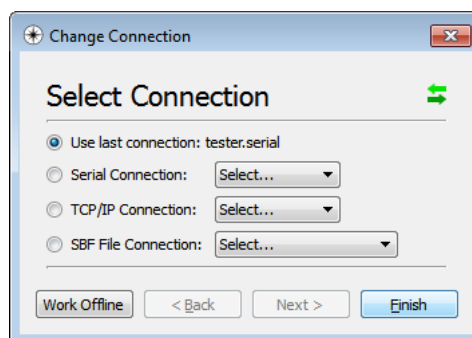

Figure 2.3-1: Connection dialog
4. The `Change Connection` dialog (see Figure 2.3-1 on page 22) will appear. For the first connection, choose `Serial Connection | Create New | Next>`.
On startup, RxControl pops up a `Change Connection` dialog asking the user to specify the communication settings (see Figure 2.3-1). The user can choose between four connection options:
If connections files are available at startup, RxControl displays the `Use Last Connection` option and specifies the name of the corresponding connection file in the `Change Connection` dialog (see Figure 2.3-1 on page 22).
If RxControl is already running, the `Change Connection` dialog (see Figure 2.3-1 on page 22) can be opened by choosing `File | Change Connection` in the RxControl's main window.